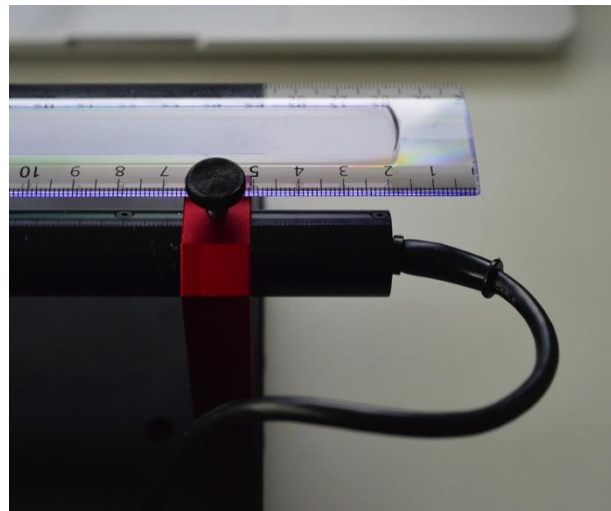

Figure 28. The source is adjusted to stick out approximately 30 mm from its holder.
- Use the setup as described below. Start by mountings the halogen source with a 30 mm source adjustment as shown below in Fig. 28.